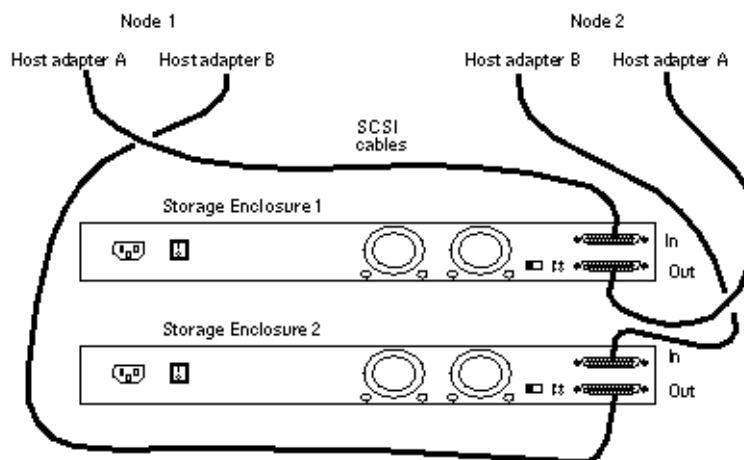

FIGURE 1-4 Cabling a Mirrored Pair Configuration With Dual SCSI Port Hosts
1. Connect the cables to the storage arrays, as shown in Figure 1-4.